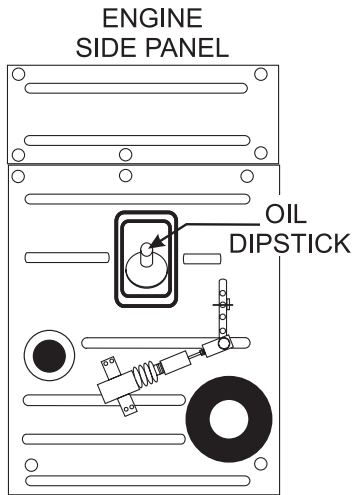

Figure 12. Engine Oil Dipstick
- Remove the engine oil dipstick from its holder (Figure 12).